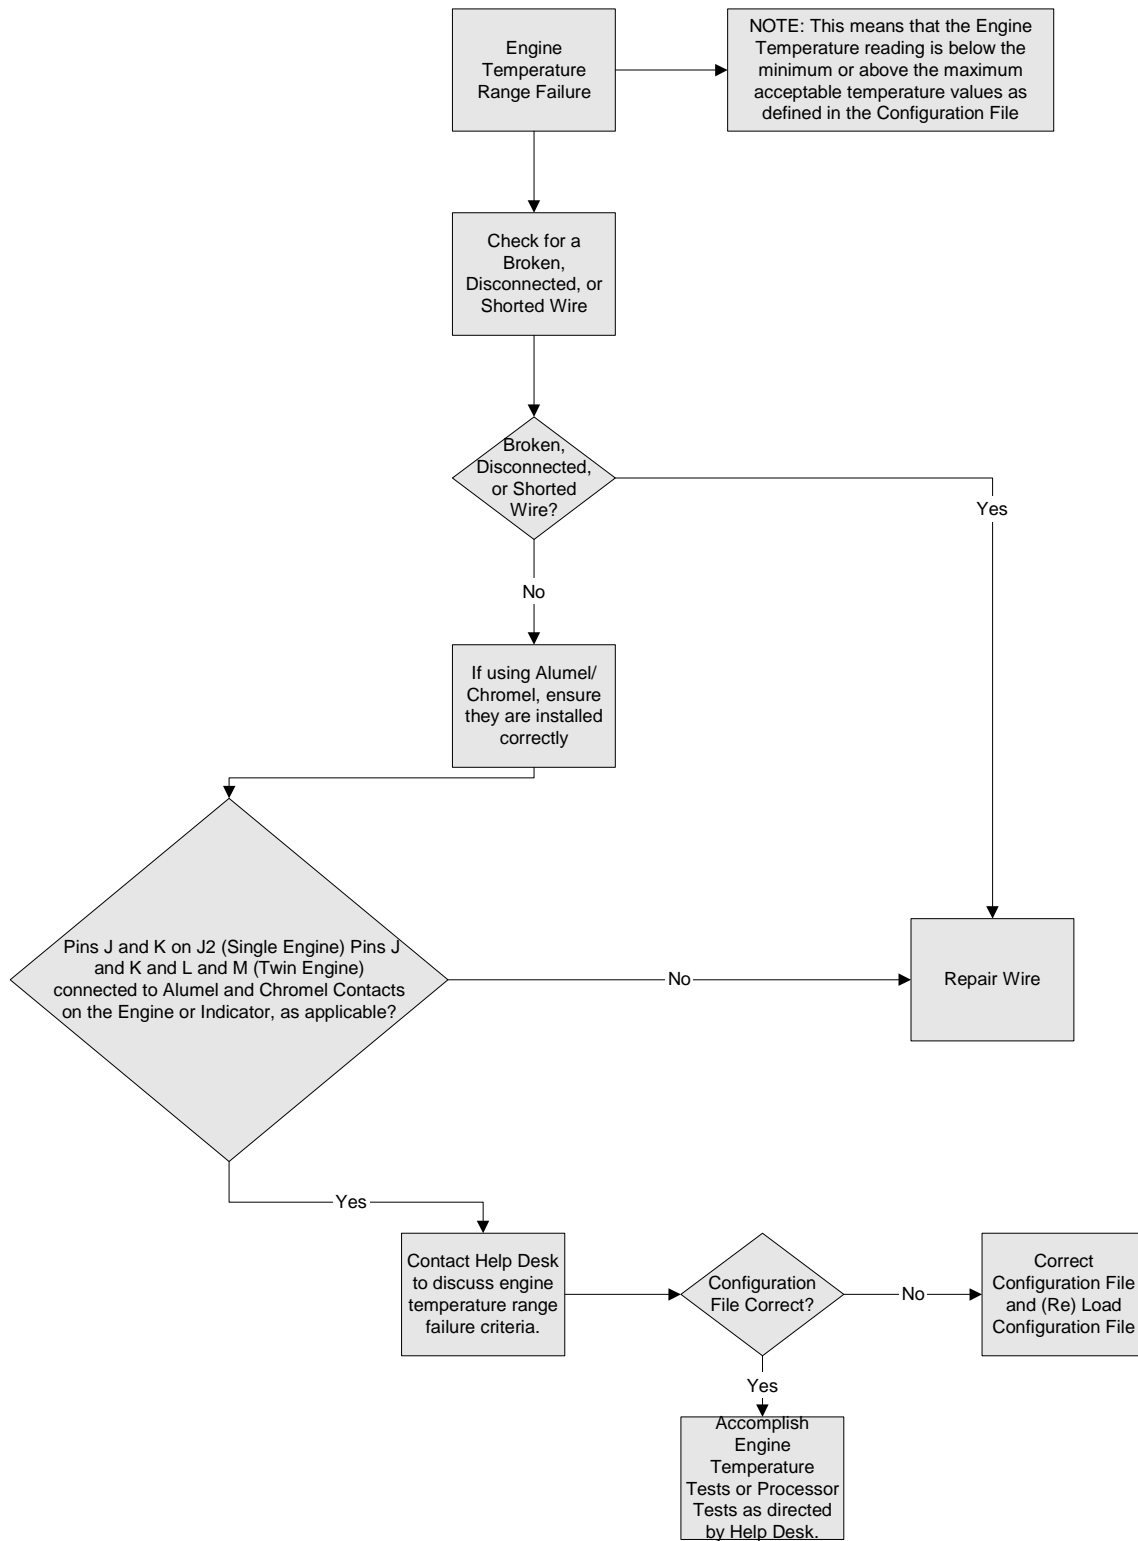

Figure 29: Engine Temperature Range Failure Troubleshooting
- b. Temperature Range Failure – Refer to Figure 29.